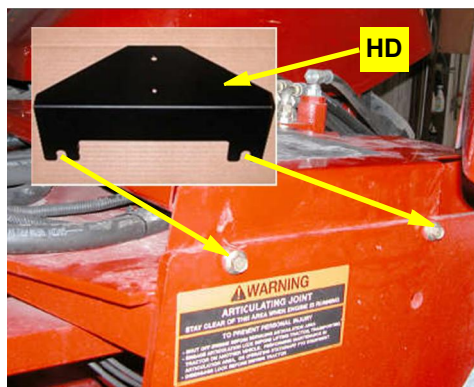

Figure 4-1a: Steering block mounting location
a. Attach the hydraulic steering block mounting bracket **HD** (inset Figure 4-1a) to the two mount bolts on the left side of the articulation point (Figure 4-1a).